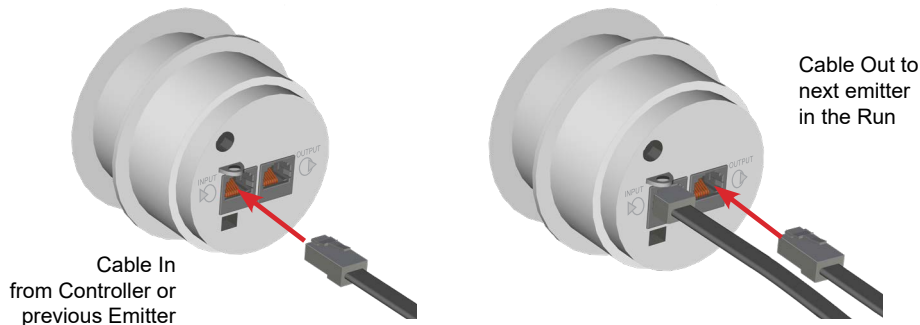

Figure 16. Correctly Wire Emitters
4. Install the first emitter in the ceiling tile by pushing the emitter through the front of the hole in tile and securing it with the locking ring. Connect the cable run from the Qt X output RJ45 connector to the INPUT connector of the first emitter (Figure 16). *The input jack has the rounded tab above it and can help if you can't see it easily.*
- Connect a cable to the output of the installed emitter (Figure 16) and run that cable to the next emitter location. Install the next emitter in the run. Connect that output cable to the input port of the newly installed emitter and repeat Step 5, above.